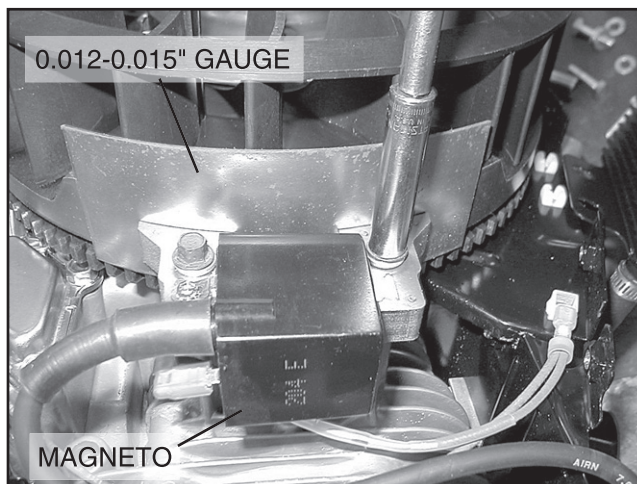

Figure 7-37. – Setting Ignition Magneto (Armature) Air Gap
4. Rotate the flywheel until the magnet is under the module (armature) laminations (see Figure 7-37).